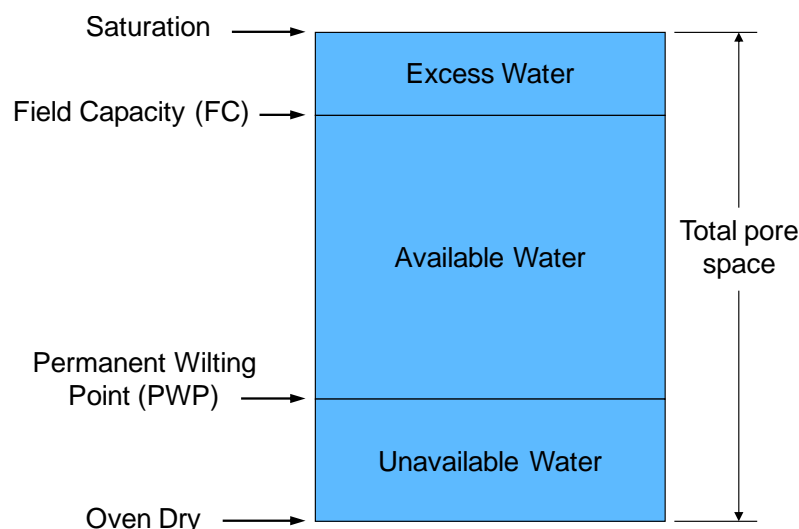

Figure 5. The various components of the soil water content.
Water is held in the empty spaces between soil particles. When these empty spaces are completely filled, the soil is said to be saturated (Figure 5). Excess water will drain out over time until a point where the soil can hold a certain amount of water indefinitely against the downward pull of gravity. This soil water content is the soil's *full point* called **field capacity (FC)** and in this application is measured in inches of water per foot of soil depth. The excess water that drains will move down to lower soil layers. Applying more water than a soil can retain in the plant's managed root zone results in water loss to **deep percolation (DP)** or "deep water loss". Water loss to deep percolation wastes water, pumping energy, and vital plant nutrients that are held in the soil water solution.